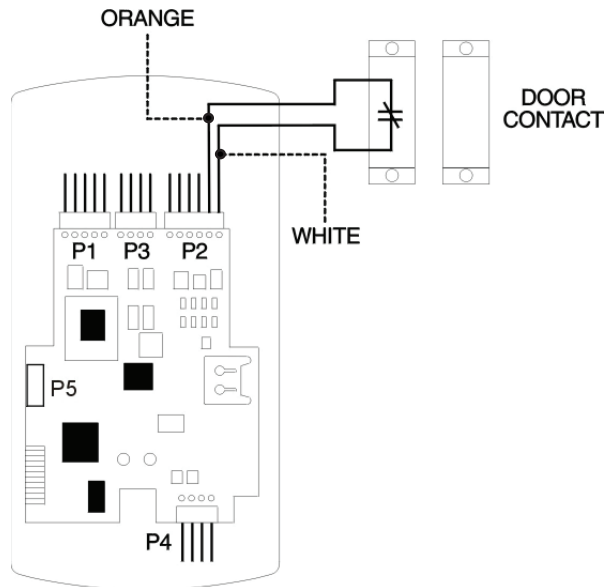

Figure 13: Wiring the Door Contact
Other REX devices can be used to include a remote button placed at a receptionist's desk, a press-to-exit switch on the inside of a door, or a passive infrared detector, allowing free and convenient egress. The REX feature requires no programming; simply wire the unit as illustrated in Figure 13. To incorporate this feature, follow the steps below:
4. **If you do not wish to install the door contacts per figure 13, twist the white wire and the orange wires together;** this is mandatory. If this is not done, the REX input will not function.